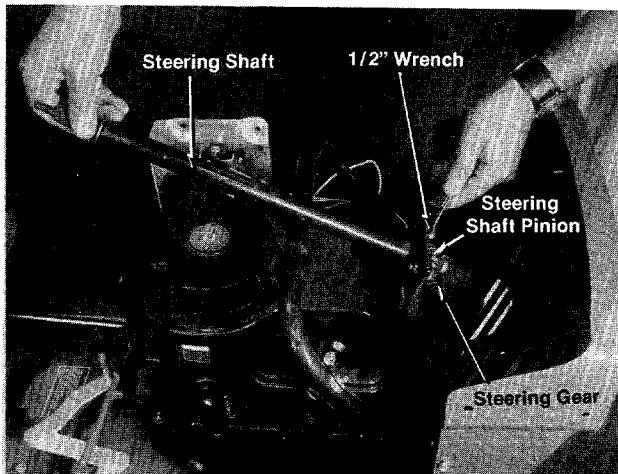

FIGURE 4.
1. Place steering shaft pinion in steering gear and fasten with two hex semi bolts. A $\frac{1}{2}$ " wrench is required. See figure 4.